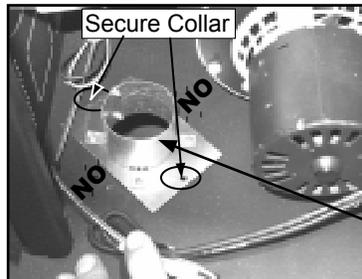

Figure 17.2
- Align and secure collar assembly with 2 of the 4 holes as shown. **Figure 17.2**